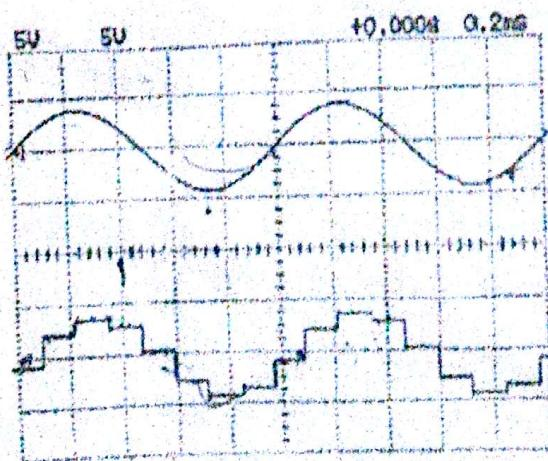

Figure 5-7. Message Signal (above) and Sample-Hold output (below)
- (6) Connect CH-1 input probe of oscilloscope to TP1 of PCM 1, set the frequency to $1[\text{kHz}]$ by adjusting frequency ADJ. control terminal of audio generator and set amplitude to $8[\text{V}_{\text{pp}}]$ by adjusting Amplitude ADJ. control terminal.
- (7) Connect CH-1 input probe of oscilloscope to TP2 of PCM 1, set ramp voltage to $9[\text{V}_{\text{r-r}}]$ by adjusting Amplitude ADJ. control terminal in ramp generator.
- (8) If CH-1, 2 input probe of oscilloscope would be connected to TP1 and J1 of PCM module, two wave forms would be appeared as figure 5-7.
- a What's the name of two wave forms appeared in figure 5-7?
- b How many times of sampling and size of phase within one cycle of instantaneous sampling wave form indicated in figure 5-7?